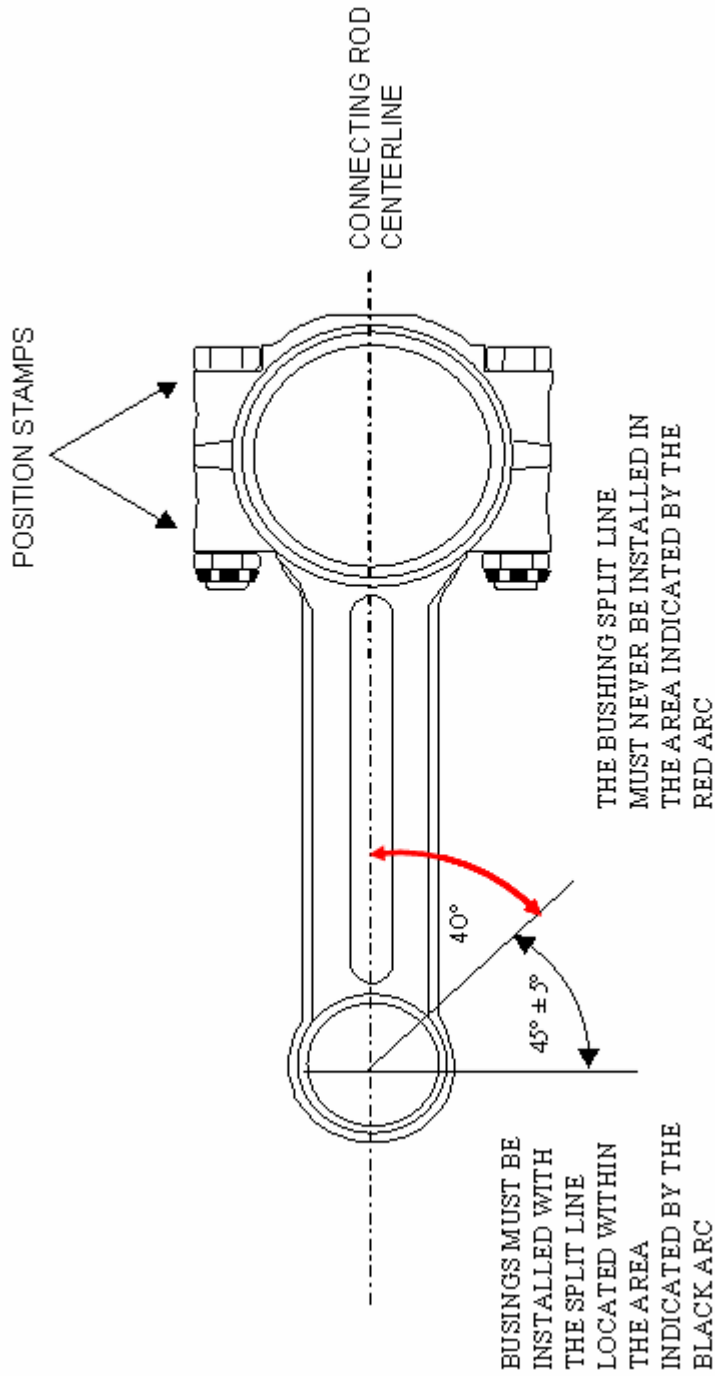

FIGURE 3
- 2) The piston pin bushing split line (Reference Figure 1) must be positioned within the arc indicated in Figure 3, no closer than 40° to the connecting rod centerline.